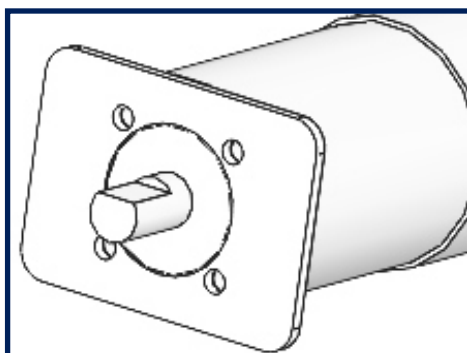

FIGURE 2A
1. The motors need a motor spacer plate between them and the slots cut out in the ATR. Refer to **Fig 2A**. The HD2 uses a rectangular one that will be inserted so the long direction goes from front to back of the robot (used to cover the slots).